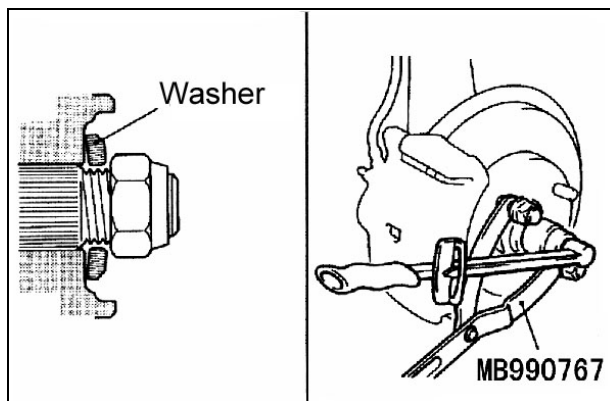

Fig.12-27
(3) Drive shaft nut installation
- a. Washer installation direction as show Fig.12-27.